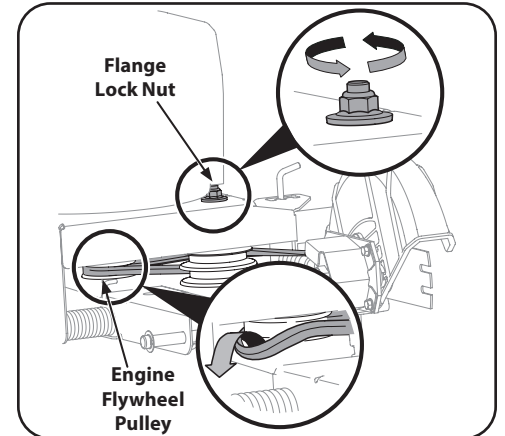

Figure 3
NOTE: To aid in reassembly, note the orientation of the drive belt on the two idler pulleys and the engine flywheel pulley prior to performing the following steps. Refer to Figure 3.
1. Working in front of the edger, loosen the flange lock nut on top of frame, allowing the idler pulley assembly to pivot slightly out from the frame. See Figure 3.
2. With your other hand, carefully reach under the rear of the edger and remove the belt from around the engine flywheel pulley. See Figure 3.